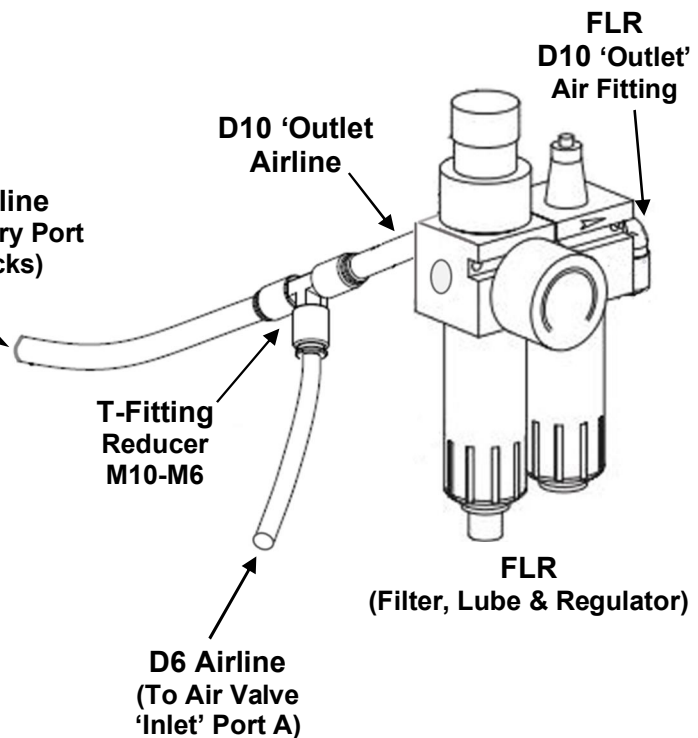
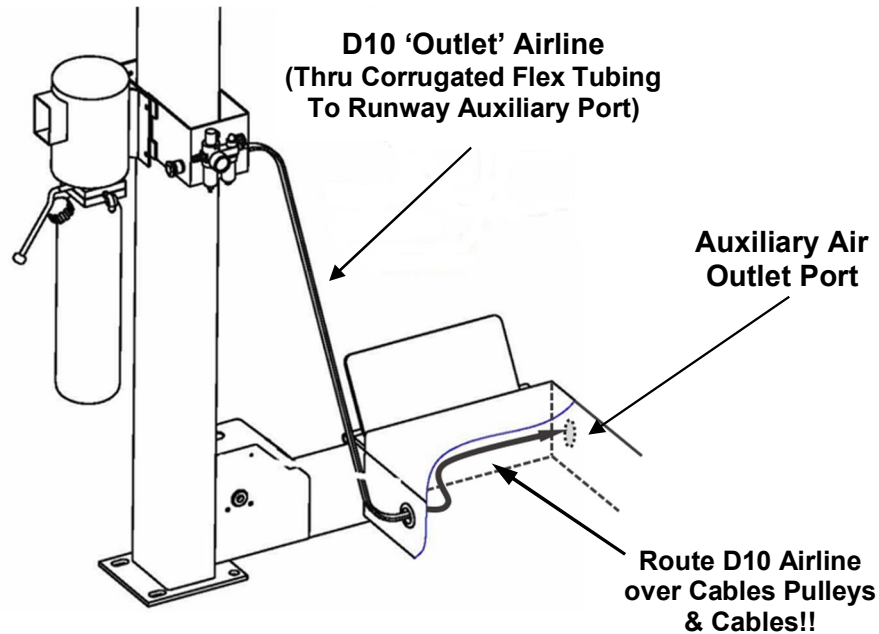

Fig. 5
Fig. 6
- 7) Using D10 x 71+Airline, connect to remaining (M10) T-Fitting end in **Fig. 5**, then carefully route through the Corrugated Tubing to extend through runway hole and over & across to Auxiliary Air Outlet Port located on inside, front section of the runway, **Fig. 6**.